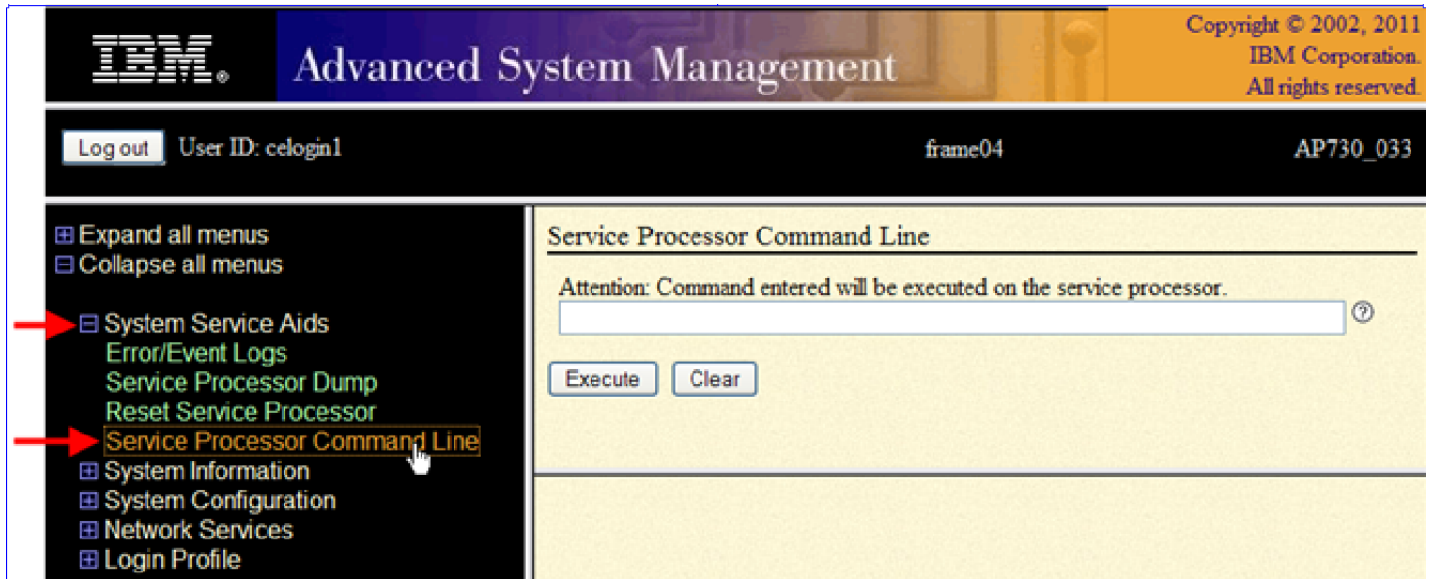

Figure 14 ASM Service Processor Command Line
10. Expand 'System Service Aids' + sign and Select 'Service Processor Command Line' to obtain Figure 14.